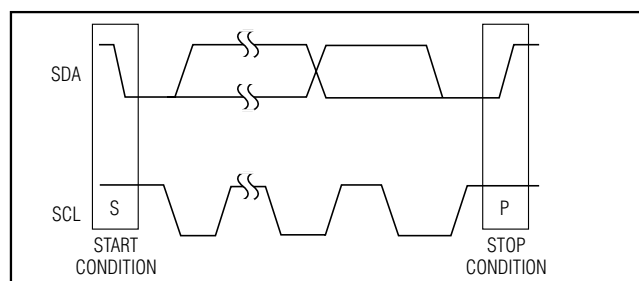
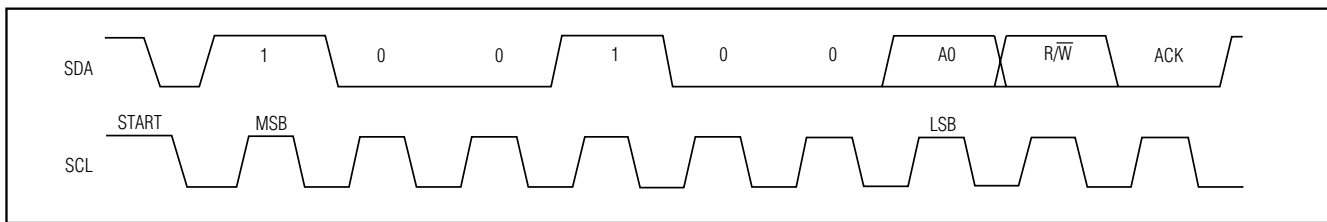

Figure 14. Start and Stop Conditions
Figure 15. Slave Address
Each transmission consists of a start condition (see Figure 14) sent by a master device, the MAX3301E 7-bit slave address (determined by the state of ADD), plus an R/W bit (see Figure 15), a register address byte, one or more data bytes, and a stop condition (see Figure 14).
Both SCL and SDA assert high when the interface is not busy. A master device signals the beginning of a transmission with a start (S) condition by transitioning SDA from high to low while SCL is high. The master issues a stop (P) condition by transitioning SDA from low to high while SCL is high. The bus is then free for another transmission (see Figure 14).
A bus master initiates communication with a slave device by issuing a START condition followed by the 7-bit slave address (see Figure 15). When idle, the